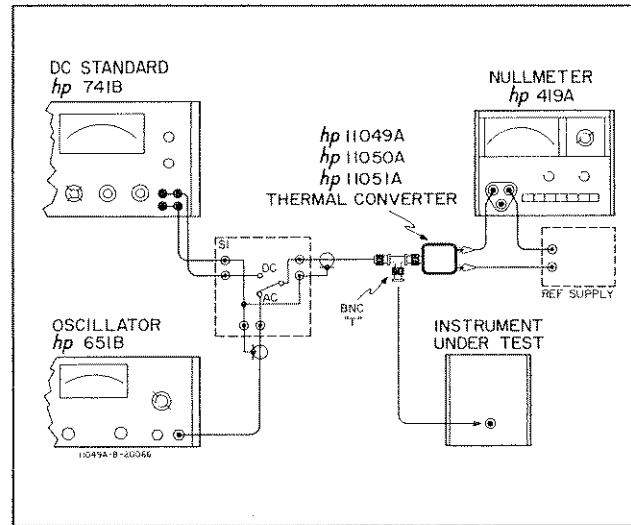

Figure 5. Test Signal Generation
17. The test setup in Figure 5 on the next page generates a test signal that may be used for both frequency response and absolute value calibration at any frequency within the thermal converter range. A dc standard acts as the absolute value reference, and a stable test oscillator generates the calibration signal. With S1 set to the DC position and the dc standard output set to the desired calibration voltage, the reference supply is adjusted for a null indication on the null meter. Then S1 is switched to AC, and the oscillator output is adjusted to reestablish a null indication. This sets the rms value of the oscillator output equal to the dc standard output. The oscillator output goes to the instrument under test.
- b. Connect dc standard, test oscillator, thermal converter, reference supply, null meter, and instrument under test as shown in Figure 5. Keep all connections as short as possible.
- c. Set switch S1 in Figure 5 to DC, and set dc standard output to +1.000 vdc.